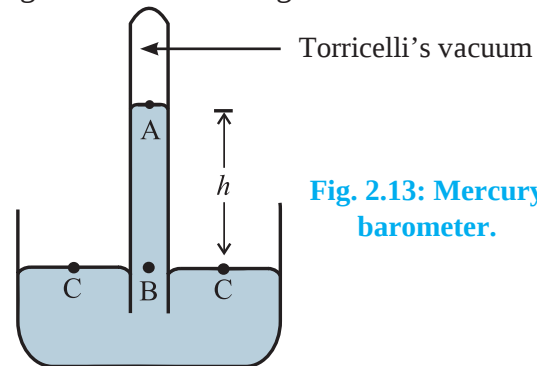

Fig. 2.13: Mercury barometer.
i) Mercury Barometer: An instrument that measures atmospheric pressure is called a *barometer*. One of the first barometers was by Italian scientist Torricelli. The barometer is in the form of a glass tube completely filled with mercury and placed upside down in a small dish containing mercury. Its schematic diagram is shown in Fig. 2.13.